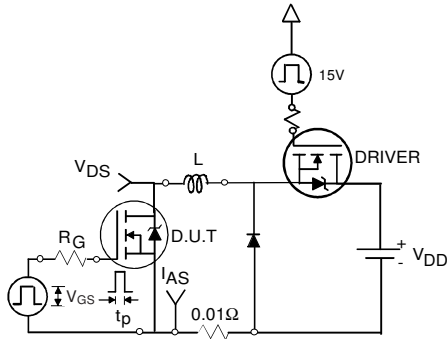

Fig 12a. Unclamped Inductive Test Circuit
| I _{AR} | Avalanche Current ① | See Fig.12a, 12b, 15, 16 | A |
- ③ Pulse width ≤ 1.0ms; duty cycle ≤ 2%.
- ④ C_{oss eff.} is a fixed capacitance that gives the same charging time as C_{oss} while V_{DS} is rising from 0 to 80% V_{DSS}.
- ⑤ Limited by T_{Jmax}, see Fig.12a, 12b, 15, 16 for typical repetitive avalanche performance.
- ⑥ This value determined from sample failure population. 100% tested to this value in production.
- ⑦ This is applied to D²Pak, when mounted on 1" square PCB (FR-4 or G-10 Material). For recommended footprint and soldering techniques refer to application note #AN-994.
3. Equation below based on circuit and waveforms shown in Figures 12a, 12b.